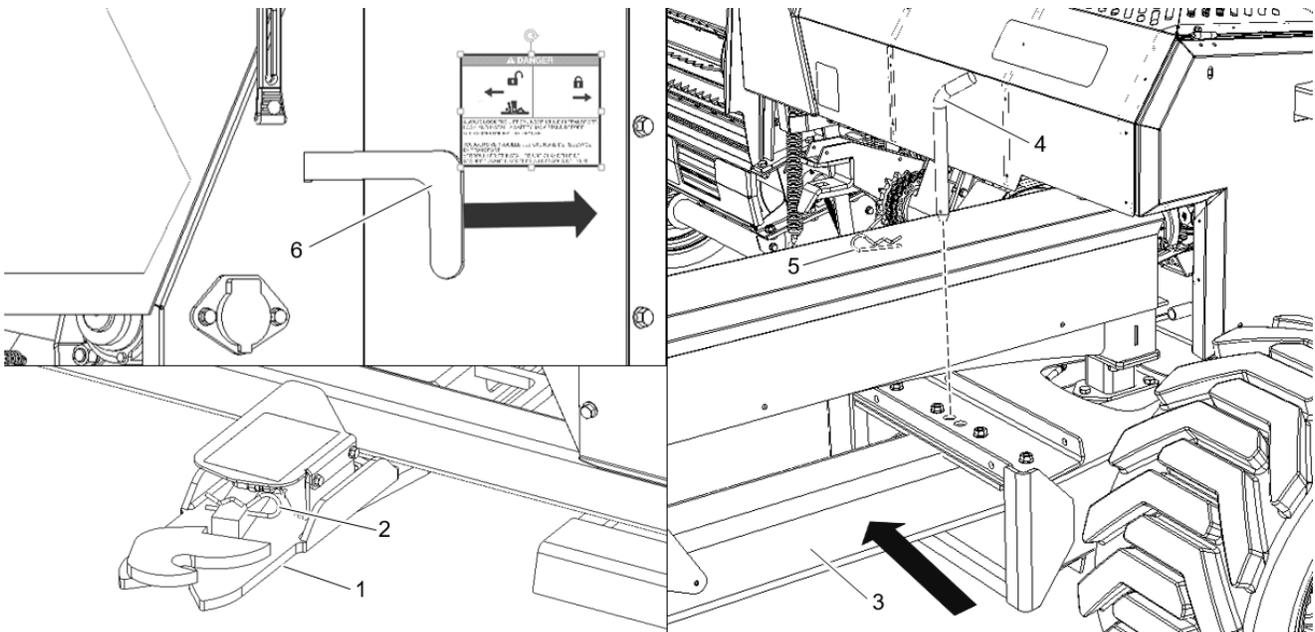

Figure 95 Transport on public roads
To set in TRANSPORT mode (FIGURE 95):
**CAUTION:** When a trailer is pulled behind the harvester and the latter is equipped with the hydraulic remote trailer disconnect (option) or other disconnect system (item 1, FIGURE 95), the safety pin (item 2) must be set in place before driving on public roads or hilly terrain. A safety chain of appropriate capacity must also be installed between the harvester and trailer. Finally, set the harvester in transport mode for road travel to prevent unexpected trailer disconnect.